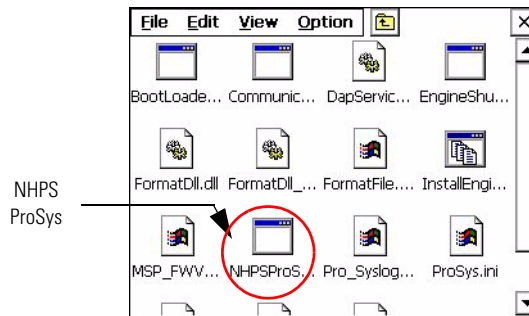

Figure 3.2 NHPS Folder
- 3 Click **NHPSProSys.exe**, as illustrated in Figure 3.2.